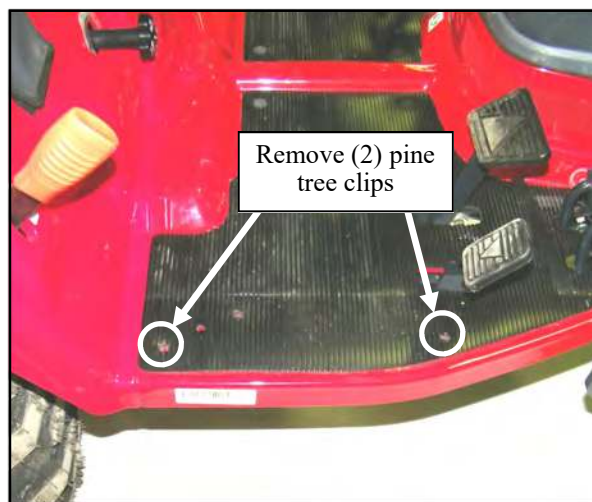

Fig. 1.1a (Floor Mat - Right Side of Vehicle)
- (2) Plastic pine tree clips from each side of the floor mat. See Fig. 1.1a. Discard clips.